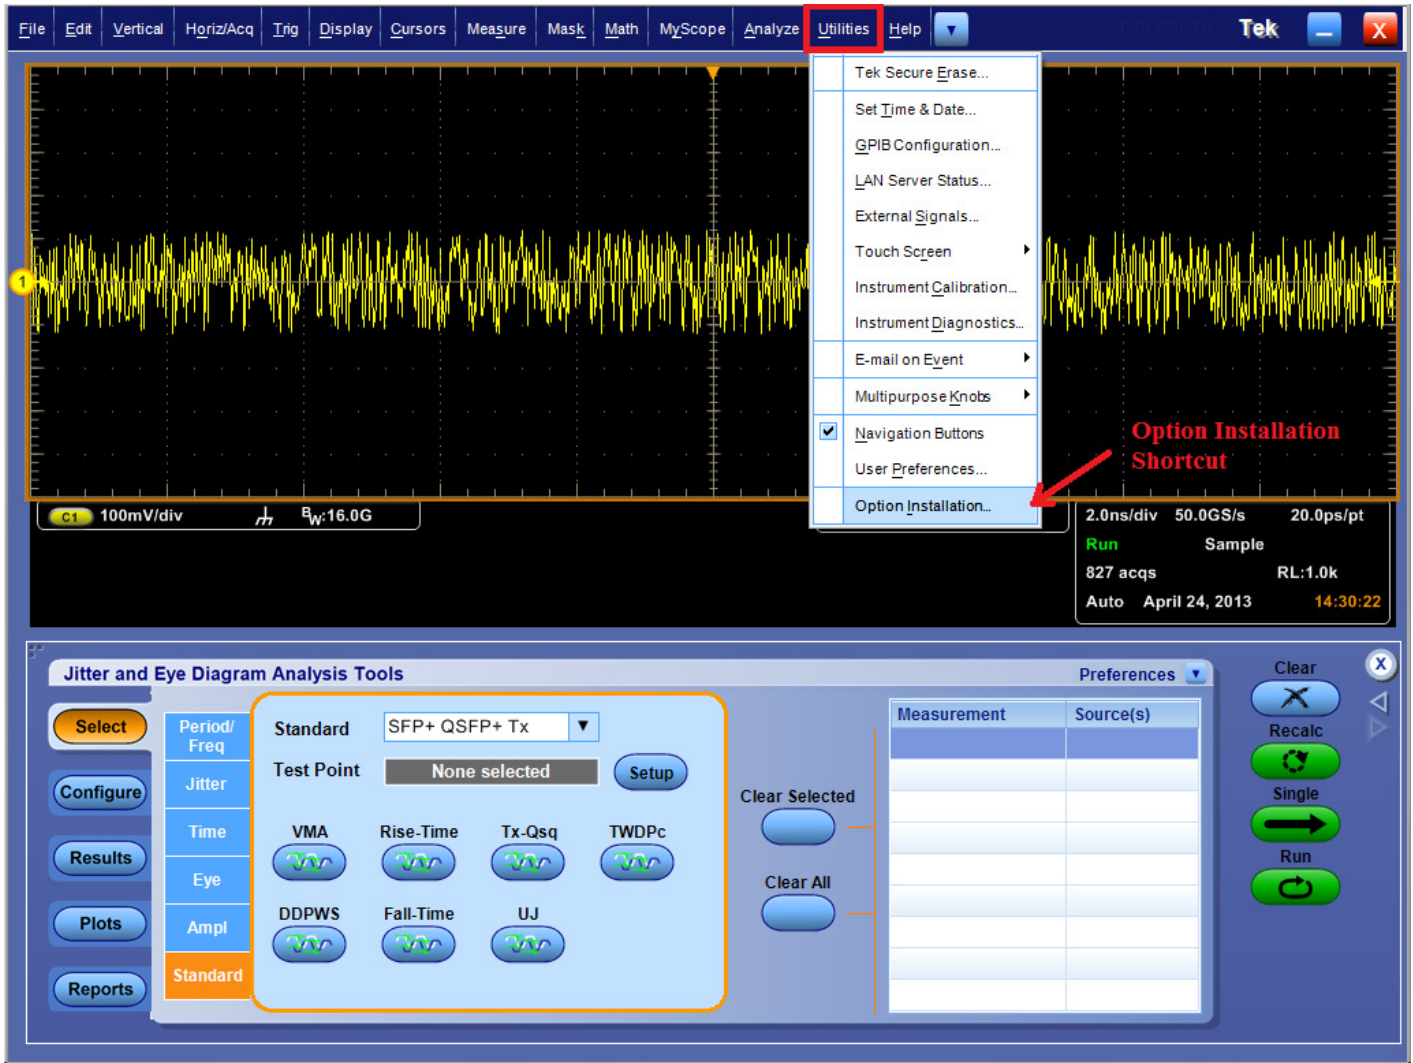

Figure 1a. Option Installation Procedure
- From the oscilloscope menu bar, click Utilities→Option Installation. The TekScope Option Installation wizard opens. (refer Figure 1a)